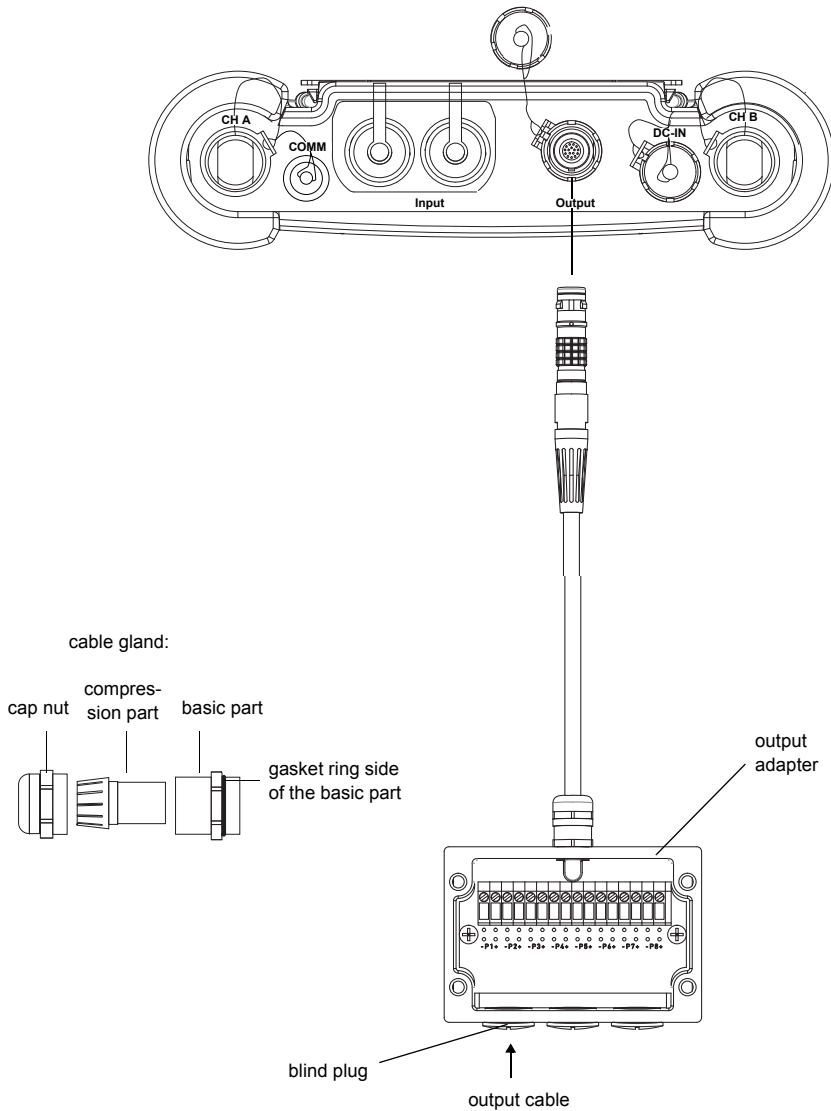

Fig. 7.15: Connection of the output adapter to the transmitter FLUXUS F608\*\*A2
The output adapter has to be used for the connection of the output adapters (see Fig. 7.15).
- Push the output cable through the cap nut, the compression part and the basic part of the cable gland (see Fig. 7.15).
- Insert the output cable into the housing (see Fig. 7.15).
- Fix the cable gland by screwing the cap nut onto the basic part of the cable gland (see Fig. 7.15).
- Connect the leads of the output cable to the terminals of the output adapter (see Fig. 7.15 and Tab. 7.2).